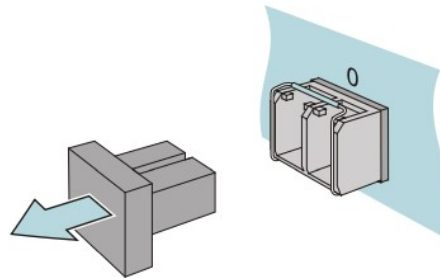

Figure 10: Remove the protective cap
- Remove the protection cap from the SFP transceiver, refer to figure 10 below.